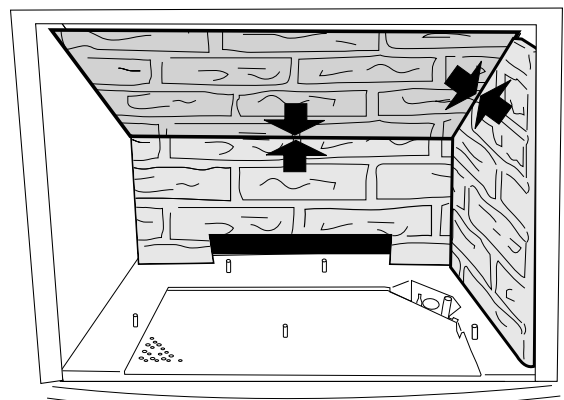

Figure 51. Install Upper Rear Panel
6. **Install the Upper Rear Panel.** Simply rest it on the other two panels. Fig. 51.